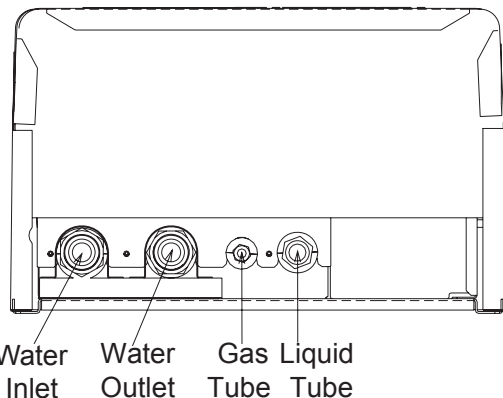

Fig.6.1 Location of Gas Tube and Liquid Tube
- Confirm stop valve is closed. Gas and liquid tube are located as shown in Fig.6.1:
(1) The connecting location of water pipeline is seen in Fig.6.1.
(2) Notes for connecting water tube
(3) Basic requirements for operating water tube: